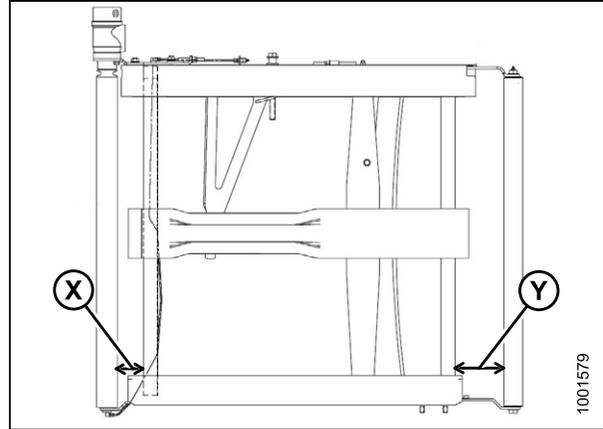

Figure 7.222: Adjustment location
1. Adjust the **drive** roller 'X' (shown in Figure 7.222: Adjustment location, page 364) by loosening nuts (A), jam nut (B) on adjuster rod and turning the adjusting nut (C).
2. Adjust the **idler** roller 'Y' (shown in Figure 7.222: Adjustment location, page 364) by loosening nut (A), jam nut (B) on adjuster rod and turning adjusting nut (C).